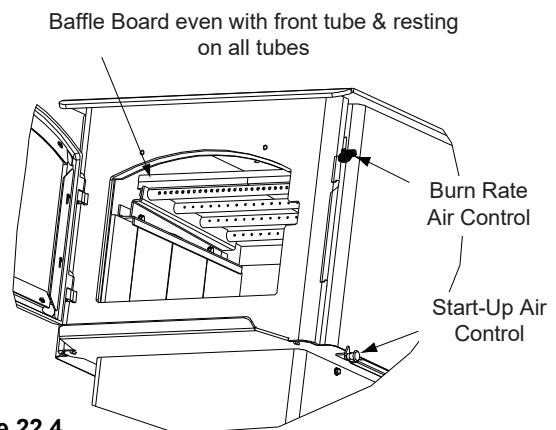
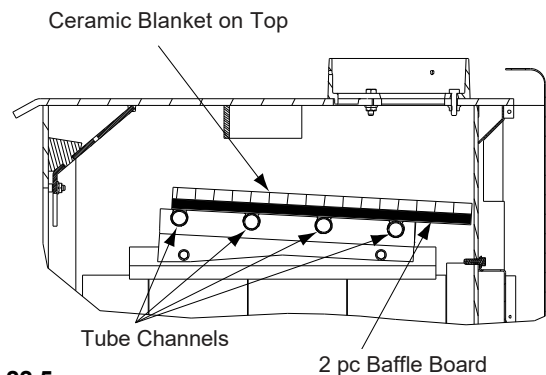

Figure 22.4
Figure 22.5
4. Re-install the baffle pieces one piece at a time. Be sure the baffle boards are even with the front manifold tube and is resting on all tubes (**Figure 22.2**, **Figure 22.4**, and **Figure 22.5**).
5. To re-install the ceramic blanket, it is easier to fold it in half first. Place on top of baffle board, open up and flatten and smooth out the blanket. Re-check the baffle board for correct positioning (**Figure 22.4**).